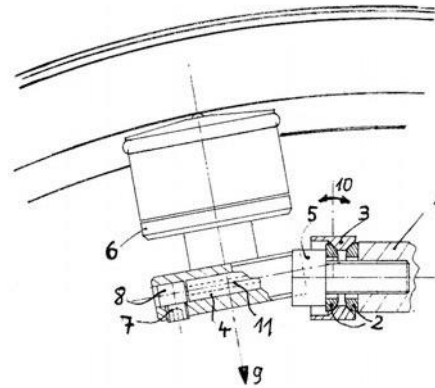

Figure 1
With 11 ° tilt angle, this adapter (see Figure 1) is designed for the usual fork geometry on 26" and 28" wheels. Instead of the left front boss, it can also be fitted to the right-hand rear brake boss on many bikes. The assembly steps are identical:
- 1) Remove the M6 screw (5 in Fig. 1) holding the brake on the boss (1).
- 2) Make sure that the convex faces of the spherical washers (2) lie against the adapter. Place the adapter (3) without dynamo horizontally in front of the boss so that the tube (4) points forward and tighten loosely. **Caution:** Ensure that the M6 screw is screwed into the base thread at least five turns/threads deep, otherwise the safe function of the brake will be impaired.
- 4) Height adjustment: Slide the dynamo (6) onto the tube with the connecting cables pointing outwards and turn the adapter until the O-ring of the dynamo rests approximately in the center of the rim.
- 5) Side-to-side adjustment: This is not possible with this adapter and usually not necessary, because brake bosses have a standard spacing. With narrow rims, sloping rim flanks or deviating special designs, it may be necessary to mount the dynamo "turned around" so that it moves closer to the rim. In this case, the connection cables point to the wheel and the grub screw (7) is moved so that it never presses on the brass tube (4) but always on the stainless steel head (8).
- 6) Angle adjustment: The imaginary extension of the dynamo axis (9) should intersect the wheel axis as precisely as possible to avoid friction and wear. The adapter can be swiveled (10) in its ball mount for this purpose.
- 8) Adjust contact pressure: Leave the operating lever in the folding position (bracket perpendicular to the adapter), grease the brass tube and housing bore and push the dynamo onto the tube as far as it will go. Swivel the dynamo until the distance between the O-ring and the rim is 2mm and pre-tighten the M4 grub screw (7) against the stainless steel head (8) in this position.
- 9) Check the contact pressure: Lift the operating lever out of the notch and let it engage in the „on“ position. The torsion spring (11) should now press the dynamo against the rim with clearly perceptible pretension and smoothly, which you can check by lifting it off the rim a few millimeters several times and letting it snap back.